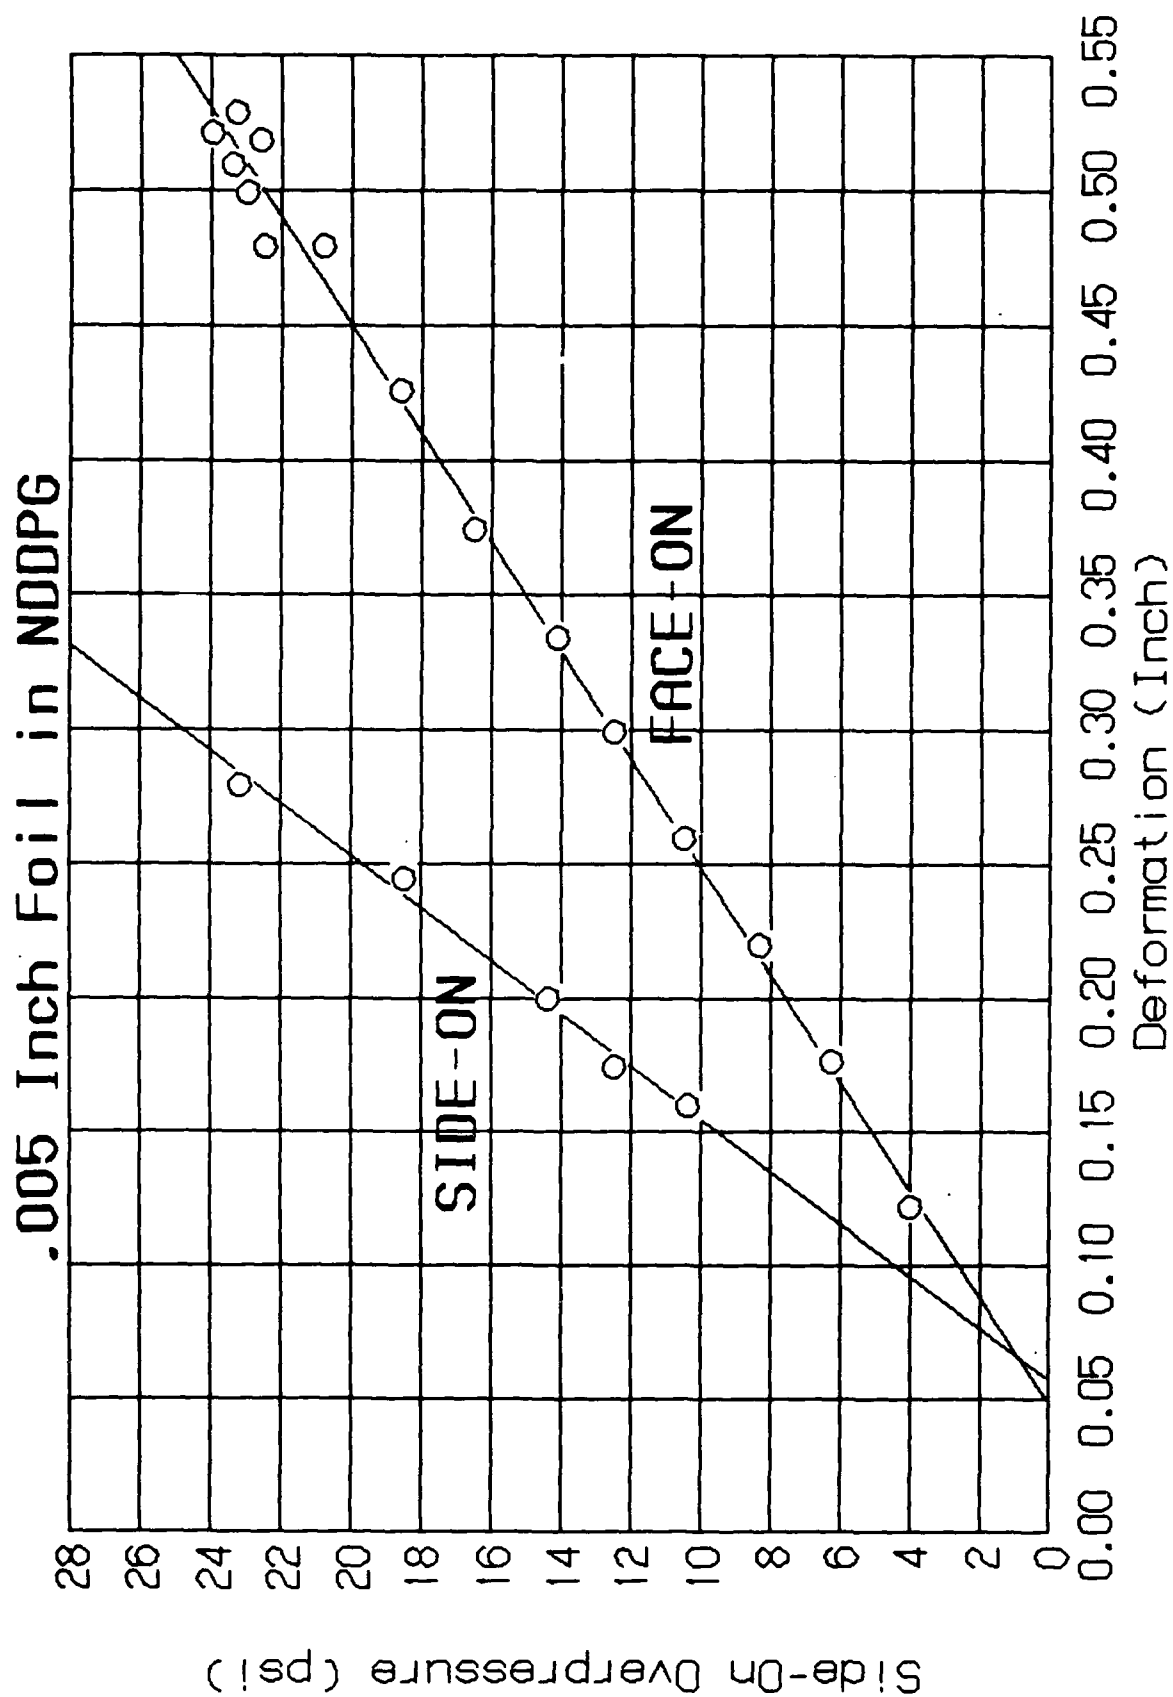

Figure 11. (U) CORRELATION CURVE E
- Figure 11. Correlation curve "E": Side-on overpressure (PSI) correlated with deformation (inch), using .005-in. foil. Curves are plotted for both side-on and face-on configuration of foil plane 15
2.11.9 Calibration Curve "E." This curve correlates side-on overpressure with deformation for .005-in. foil (Figure 11). Use curve labeled "side-on" when the foil plane is to be oriented parallel to the direction of propagation of the initial shock. Use curve labeled "face-on" when the foil plane is to be oriented normal to the direction of propagation of the initial shock.